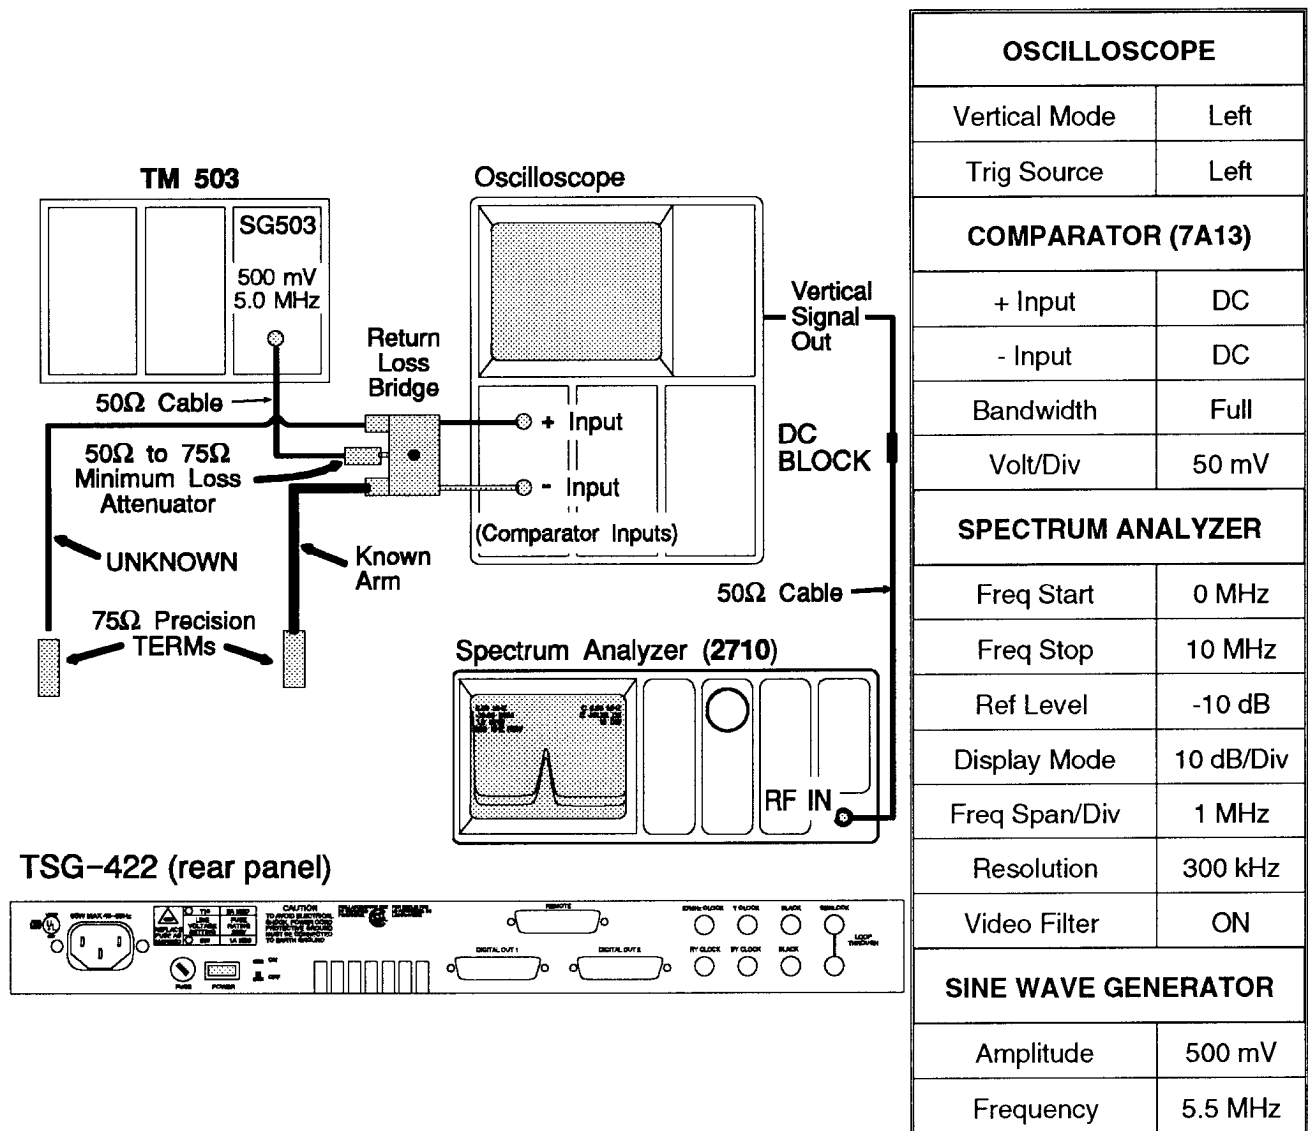

Fig. 5-12. Setup to do the Return Loss Check.
- a. Connect the equipment as shown in Fig. 5-12.